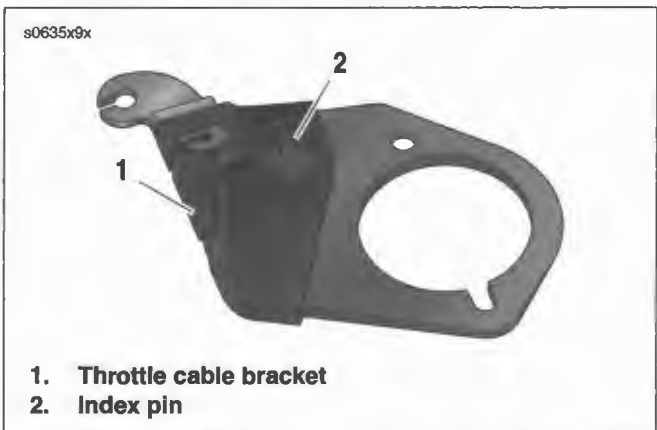

Figure 4-29. Throttle Cable Bracket
3. See Figure 4-29. Insert index pin (2) at bottom of throttle cable bracket into hole in boss at top of induction module.